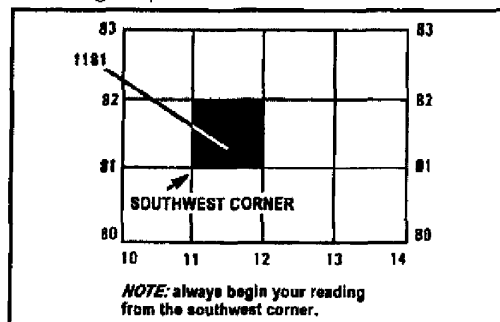

Figure C-11. Grid square 1181
1. Look at figure C-11. Your address is grid square 1181. To determine your address, start from the left and read right until you come to 11, the first half of your address. Then read up to 81, the other half. Your address is somewhere in grid square 1181.